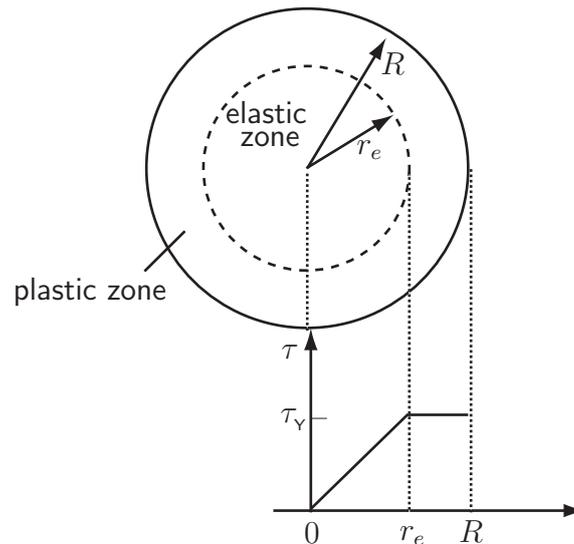

Figure 4
i.e. the regions near the central axis exhibit elasticity, but in those regions near the surface the elastic limit has been exceeded and the metal exhibits plasticity (see Figure 4).